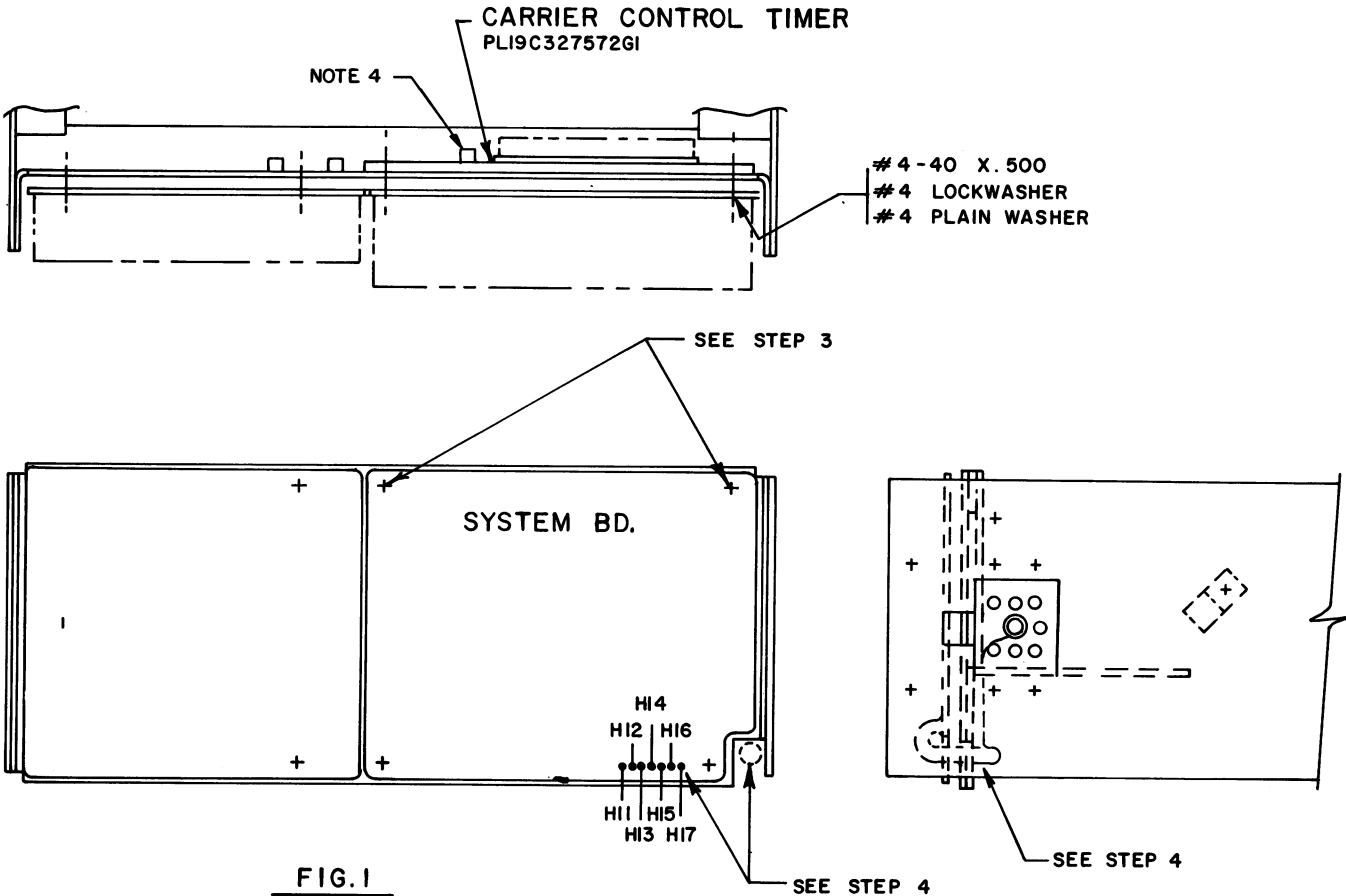

FIG.1
- STEP 2: REMOVE THESE FOUR SCREWS AND SLIDE FRONT PANEL FROM INTERNAL FRAME. THIS EXPOSES SYSTEM AREA OF RADIO. (SEE FIG. 1).